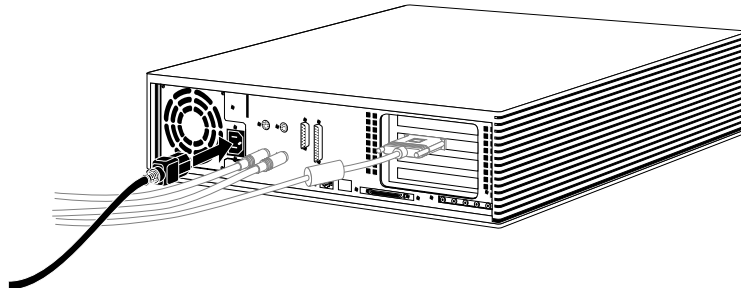

Figure 2-17 Attaching the Power Cable to the Indigo² Chassis
2. Connect the other power cable to the system, as shown in Figure 2-17.